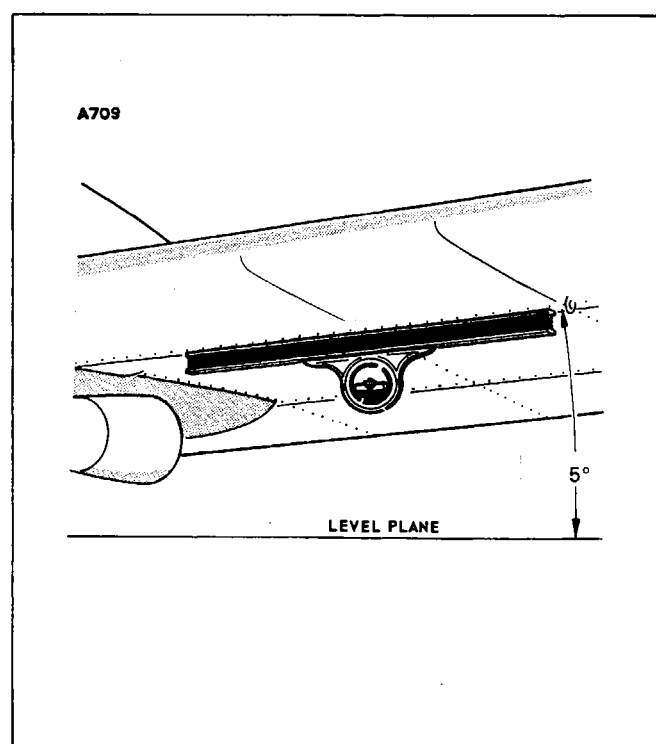

Figure 2-14. Lateral Leveling
2. Set a bubble protractor at five degrees and place it on a straightedge held along the front spar on the under surface of the wing as shown in Figure 2-14. Do not place the straightedge on any rivet heads.